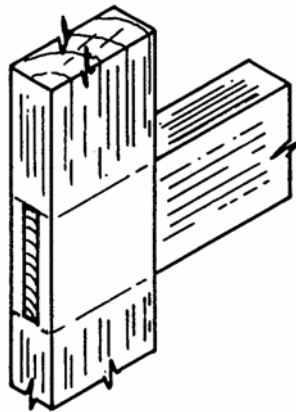

Fig. 4
11. Illustrate on Fig. 4 where a dowel would be used to hold the tenon securely in the mortise.